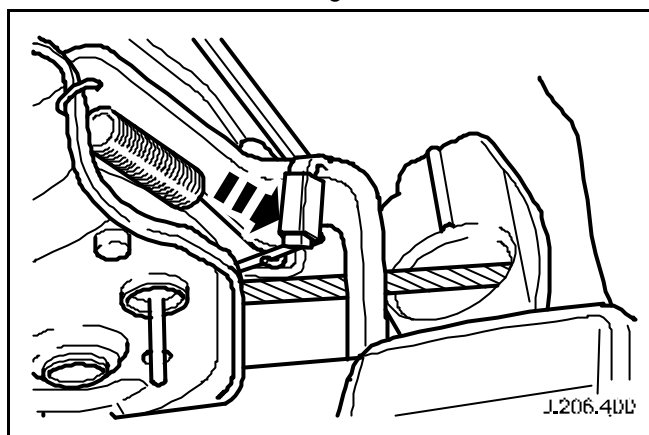

Fig. 6
- 11 If the stroke of the cable is greater than the specified amount, bend clutch spring stop and clip slightly downwards towards the clutch spring until the correct value has been attained. (See Fig. 6)